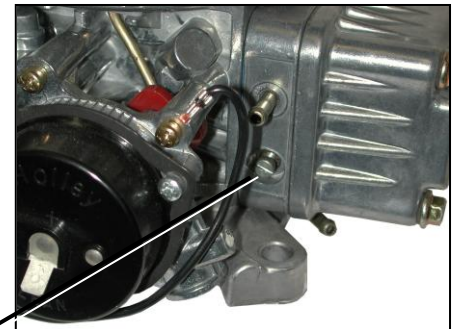

Figure 7
11. Adjust the idle fuel mixture, if necessary (Figures 7 and 8).